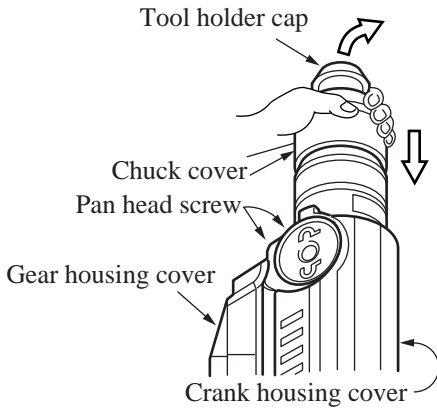

Figure 4
- a. Lower the chuck cover and remove the tool holder cap.(See the figure 4.)
- b. Remove the pan head screw, and then remove the crank housing cover and gear housing cover.(See the figure 4.)